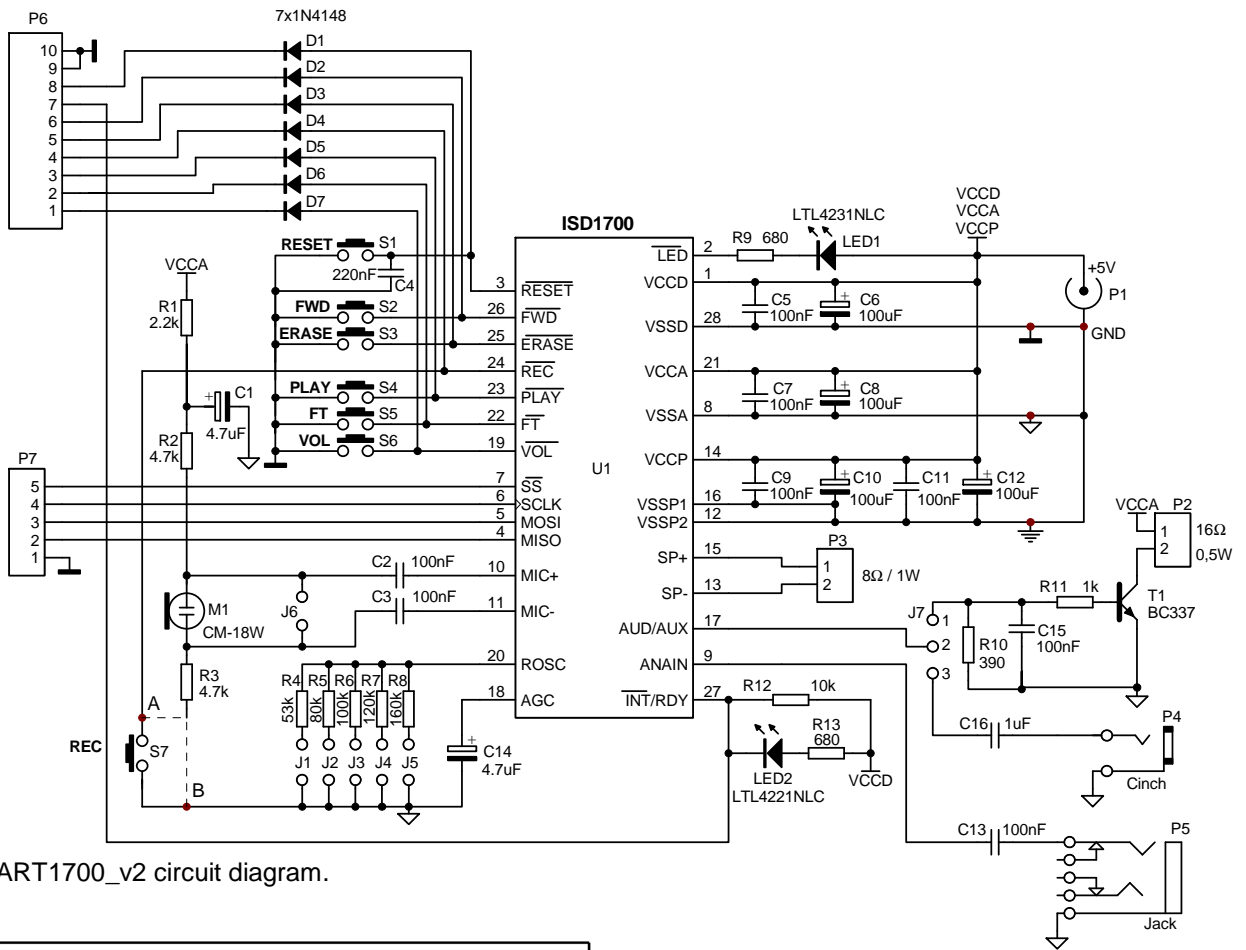

Fig.1. MART1700\_v2 circuit diagram.
Fig. 1 shows the circuit diagram of MART1700\_v2 module and Fig. 2 its PCB component layout. The following external components are required for proper operation of the module:
**Attention:** R3 resistor can be connected in two ways as shown in fig.1.